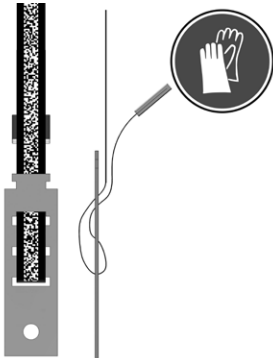

Figure 30: Bottom tension lock threading
2. Thread the code tape into the bottom tension lock (Figure 30).